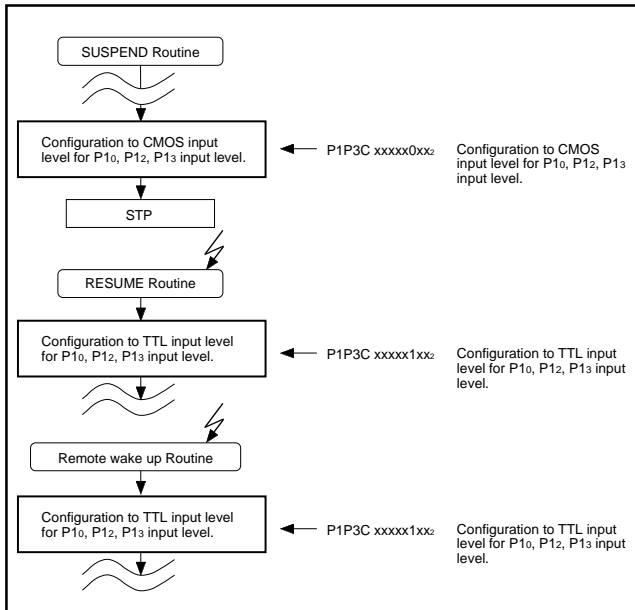

Fig. 47 Countermeasure (2) by software
- (1) Change from TTL input level to CMOS input level for P10, P12, P13 port input.
- (2) Change from TTL input level to CMOS input level before STP instruction in suspend routine; then after RESUME or Remote wake up interrupt, return to TTL input level from CMOS input level. That is shown in Figure 47.